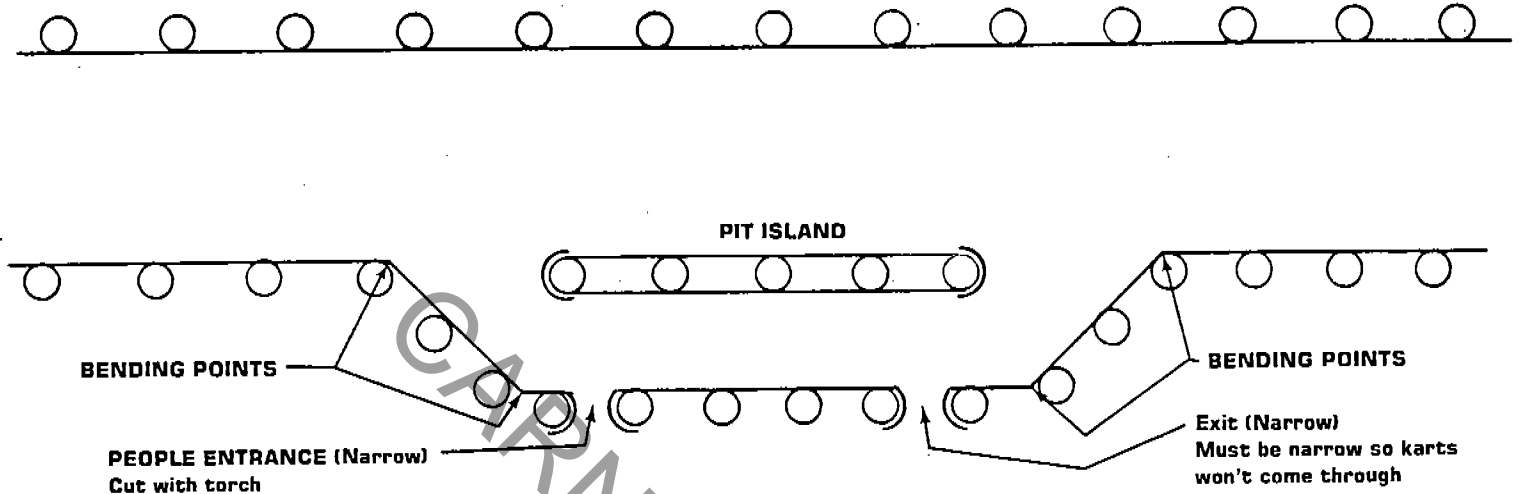

FIGURE 7: PIT AREA
- After the rest of the track is completed, the pit area can be set up. There are several points in the pit where the steel will have to be bent (Fig. 7). Heating the steel with a torch and then striking the area with a sledge hammer will accomplish this.
- The pit island should be set up next (Fig. 7). The end pieces are bolted to the sections as shown. A torch must be used to cut an end piece from a 20 ft. section and to make a bolt hole for the end tire. (Angle irons for pit island should be placed before concrete is poured.) Prebent end pieces are available from Pacer.